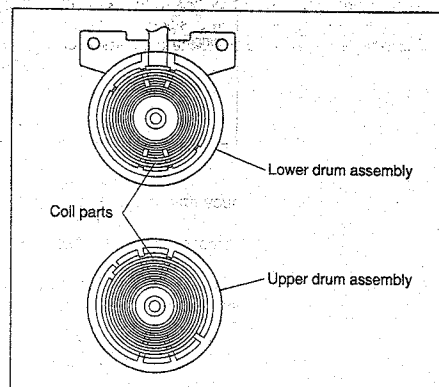

Fig. 2-2-40
- (1) Clean coil parts of the lower drum assembly and the newly installed upper drum assembly with an air brush in advance. (See Fig. 2-2-40).